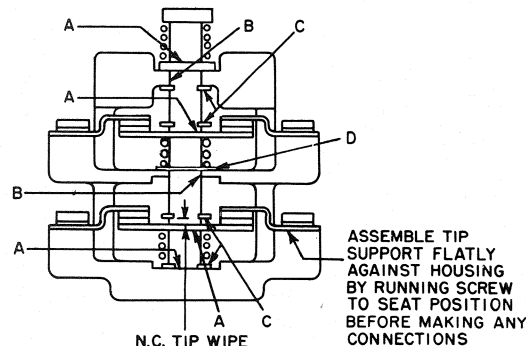

Fig. 43. Interlock block with normally closed contacts in unoperated position
This interlock has been designed so that the movable or stationary contacts can be replaced or rearranged to change an individual assembly to give a different number of normally open or closed contacts. When these operations are performed, the parts must be reassembled in accordance with Figs. 43, 44 and 45, the previous instructions and the following requirements.
1. The spring ends must not protrude into the holes (A), slots (B), or keys (C), which serve as guides for the operating rod. (See Fig. 43.)
3. Contact blocks with two normally closed circuits require a spring spacer (D) as shown in Fig. 43 to assure that the center spring is properly in place.
4. When circuits are rearranged to obtain one normally open and one normally closed circuit, the normally closed circuit must be located at the bottom as shown in Fig. 43.
3. When the wipe is reduced to one half of the minimum values shown in the general section of Electrical Interlocks, the contact assemblies should be replaced to obtain proper pressures to allow the interlock to operate satisfactorily. The wipe is the compression in inches of movable contact spring between the energized and de-energized positions of contactor. (See Figs. 43 and 45.)